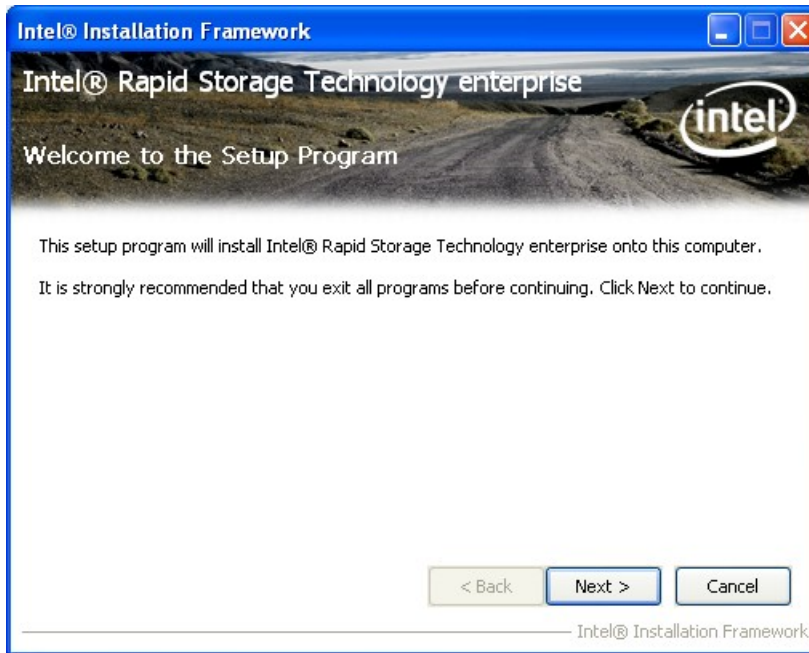

Figure 6-23: SATA RAID Driver Welcome Screen
- Step 4:** The **Welcome Screen** in **Figure 6-23** appears.